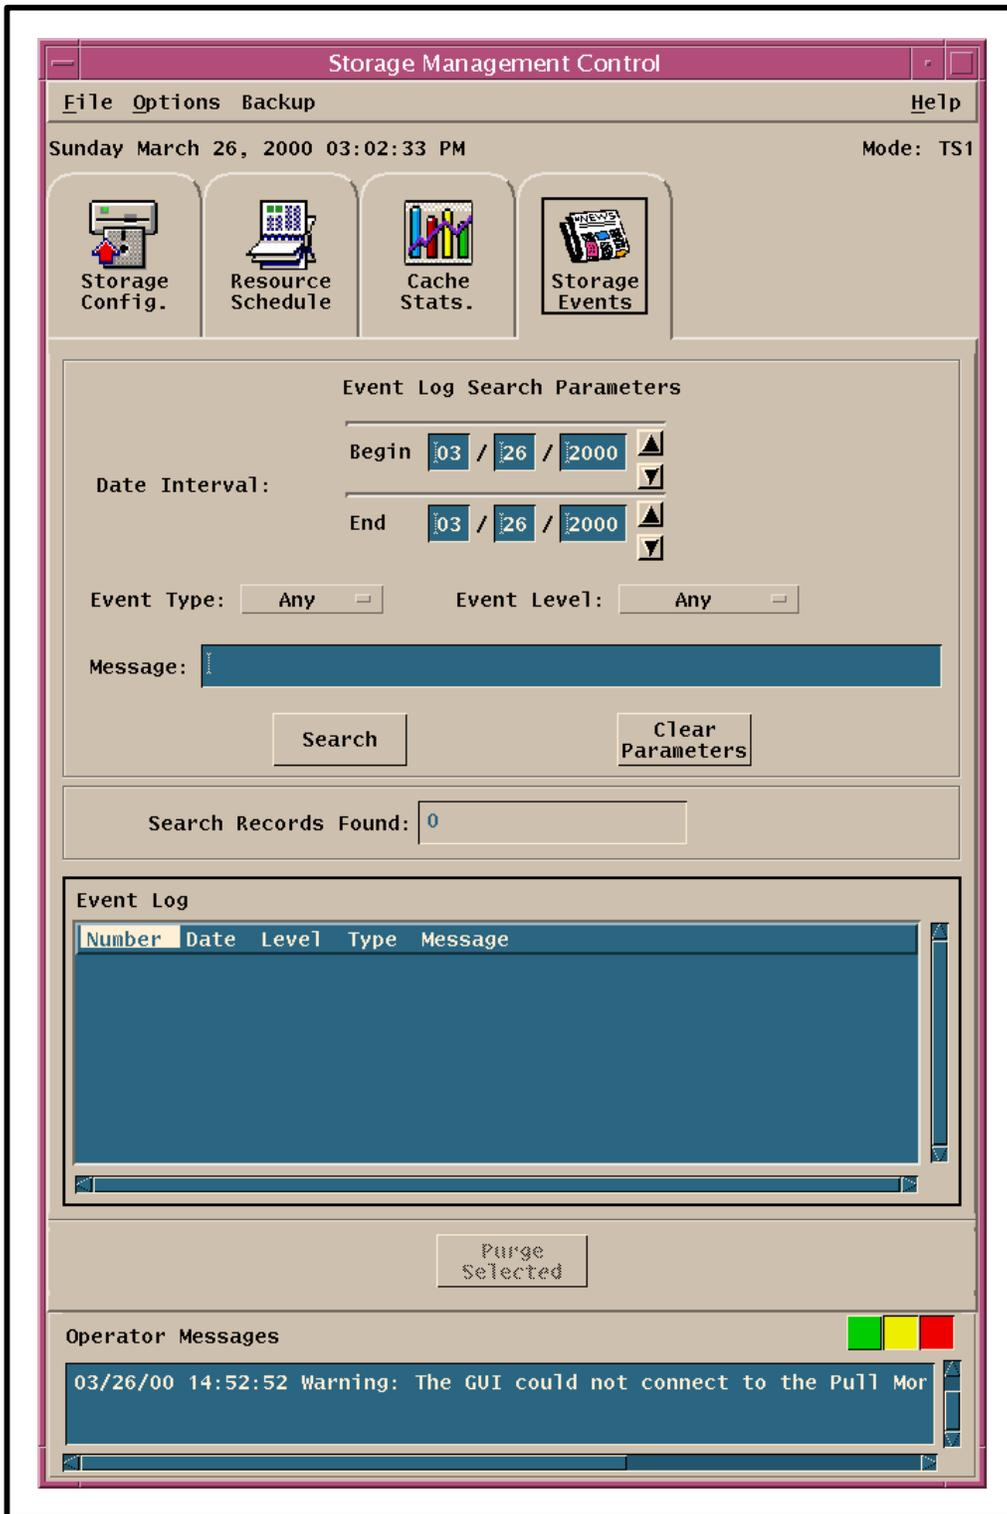

Figure 14. Storage Events Screen
- The **Storage Events** screen (Figure 14) is displayed.
- The search results are displayed in the **Event Log** window of the **Storage Management Control GUI Storage Events** tab (Figure 14).